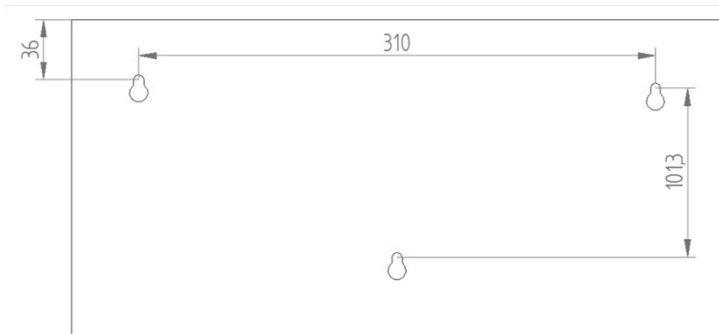

Figure 1
2. Fix the main exit sign body to the wall having cleared an access hole in the body for the incoming cables using the two pre punched holes (20mm). (See figure 1 for holes details).